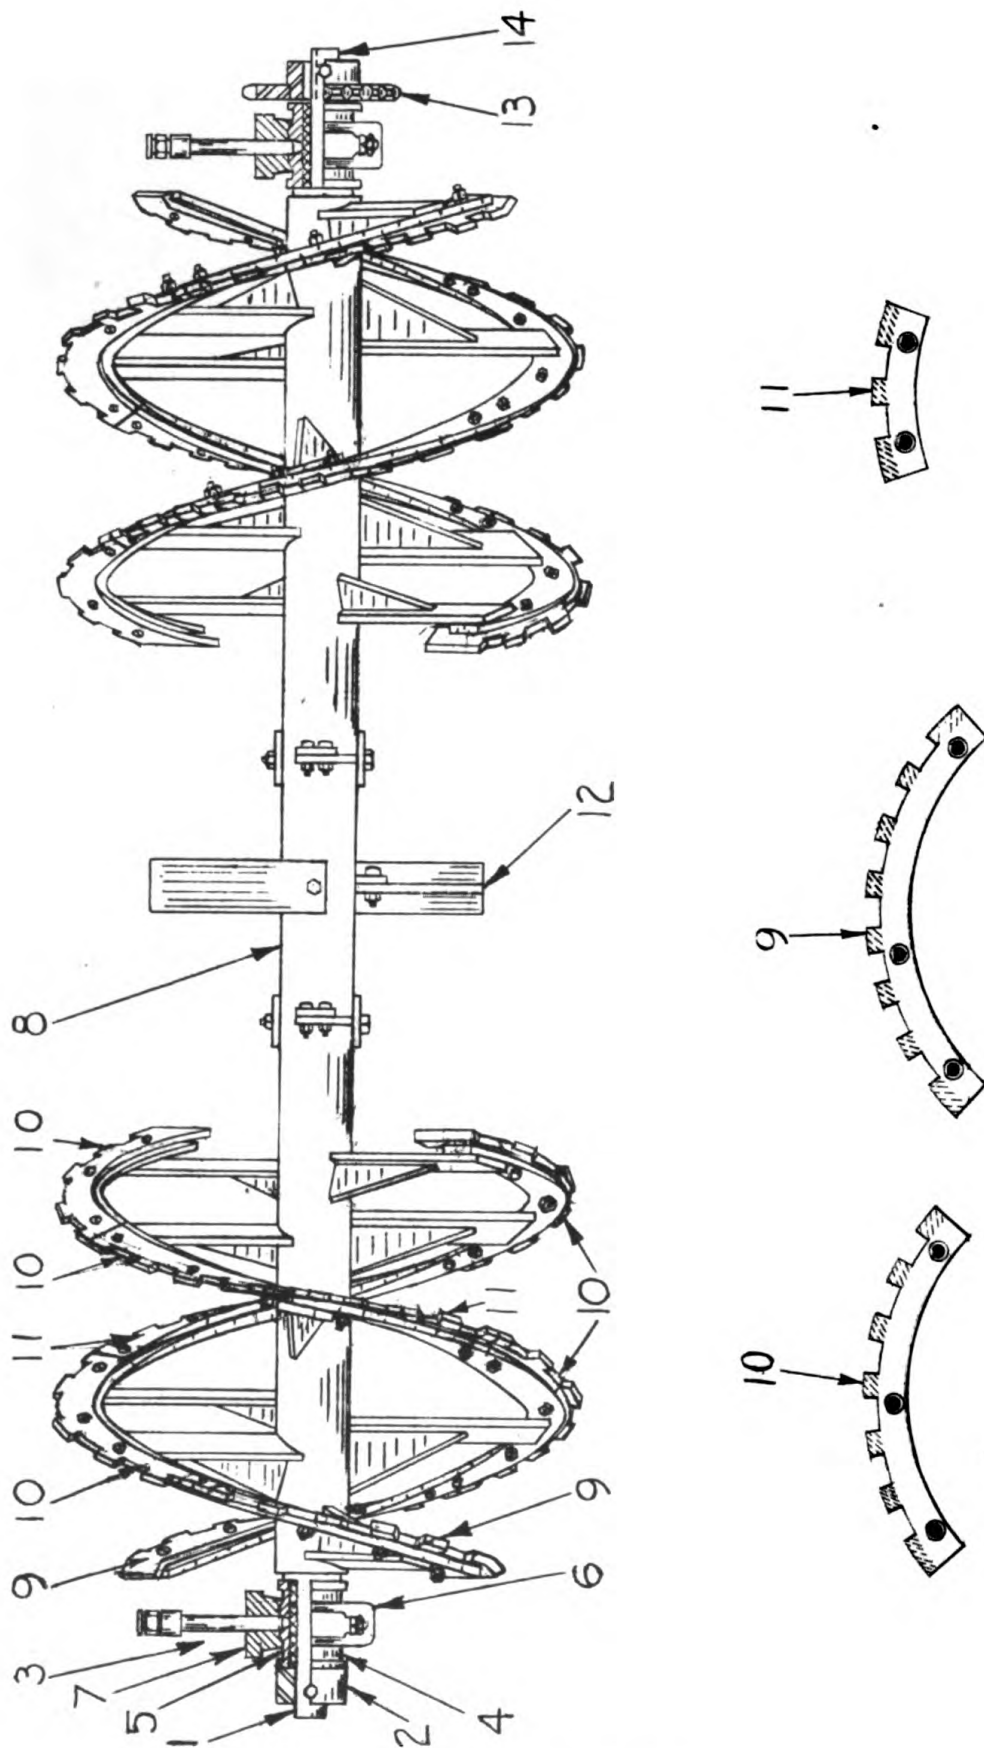

Figure 25. Feeder spiral.
The spiral assembly is supported at each end by stub shafts (1) (14) figure 25 keyed and set screwed in the tube foundation. The shafts are mounted in ball and socket bearings (3). The bearings are bolted to angles on the inside of the scraper side plates.